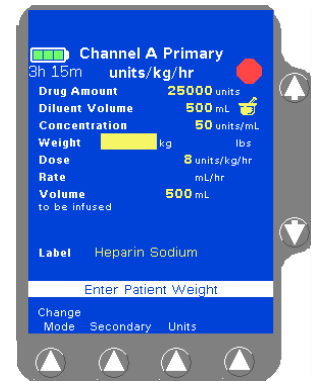

Figure 11-10 Weight-Based Programming Screen
- For weight-based modes, the **Weight** field is highlighted (Figure 11-10). If a default dose has been configured, it appears in the **Dose** field.